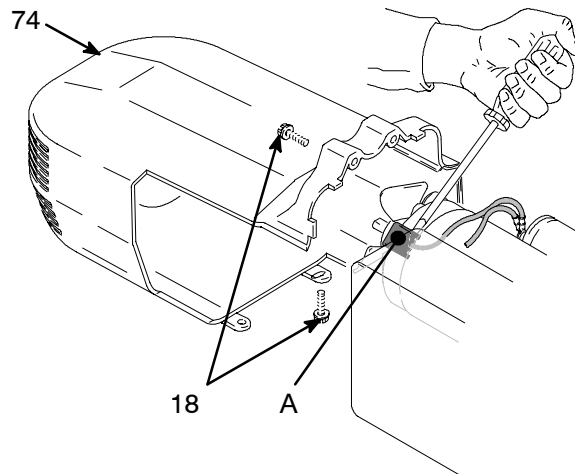

Fig. 8
4. Fig. 8. Remove motor shroud (74).
3. Fig. 8. Remove four screws (18) and motor shroud (74).
4. Pry off two brush caps (A). Tag locations of red (+) and black (-) motor leads. Cut tie wrap.